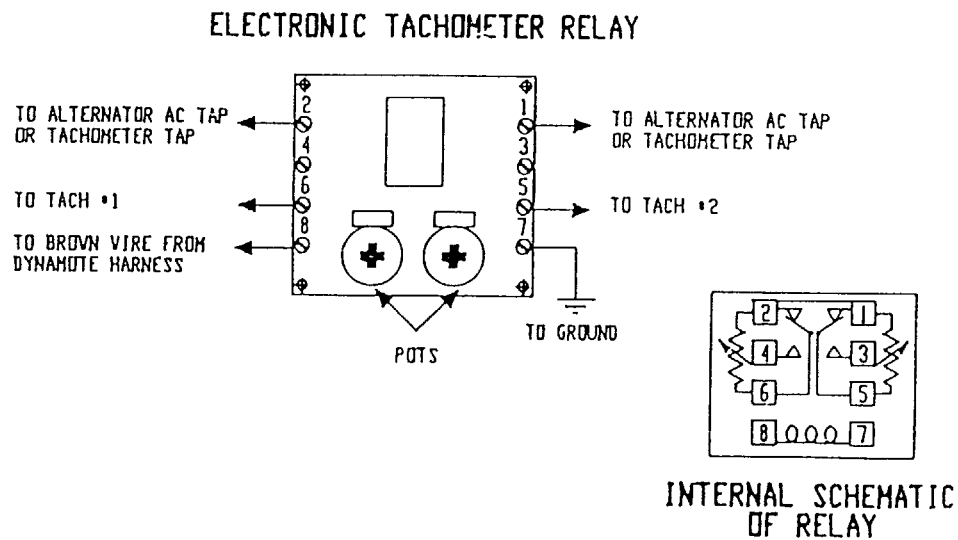

Figure 2-6. Installation of Electronic Tachometer Relay
2. Attach the two parts of this wire according to Figure 2-6 below.
3. If two tachometers are used, attach one tachometer to each side of the relay board, as shown in Figure 2-6.